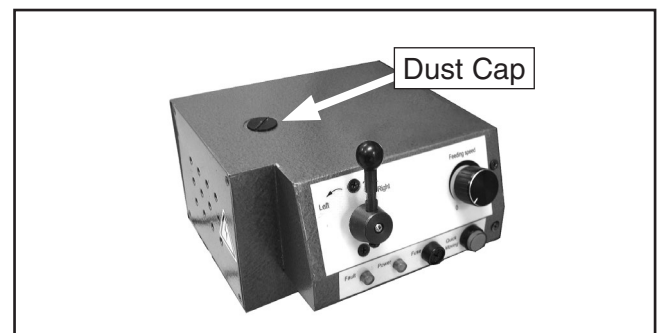

Figure 25. Top dust cap location.
2. Unscrew the power feed top dust cap (**Figure 25**).